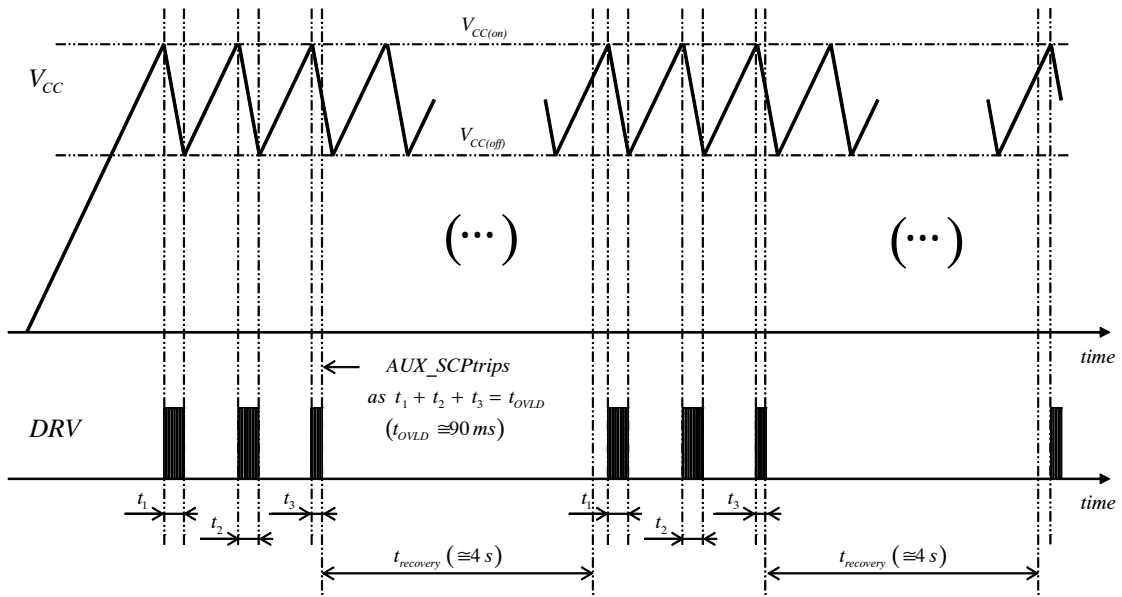

Figure 60. Start-up Sequence in a Load Short-circuit Situation (auto-recovery versions)
- If the load is shorted, the circuit will operate in hiccup mode with  $V_{CC}$  oscillating between  $V_{CC(off)}$  and  $V_{CC(on)}$  until the AUX\_SCP protection trips (AUX\_SCP is triggered if the ZCD pin voltage does not exceed 1 V within a 90-ms operation period of time thus indicating a short to ground of the ZCD pin or an excessive load preventing the output voltage from rising). The NCL30186A and NCL3006C latch off in this case. With the B and D versions, the AUX\_SCP protection forces the 4-s auto-recovery delay to reduce the operation duty-ratio. Figure 60 illustrates a start-up sequence with the output shorted to ground, in this second case.